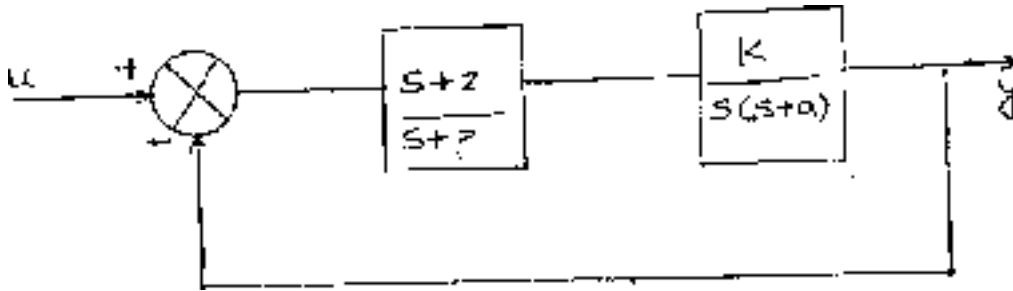

Fig. 4
- b) Obtain the state space representation of the system shown in fig. 4. 8